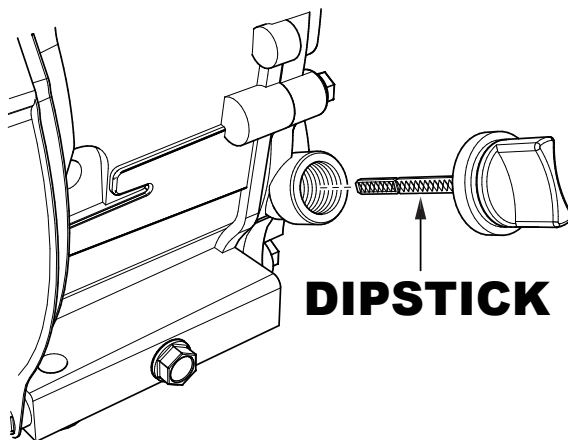

Figure 4. Engine Oil Dipstick (Removal)
2. Remove the filler dipstick from the engine oil filler hole (See Figure 4) and wipe clean.